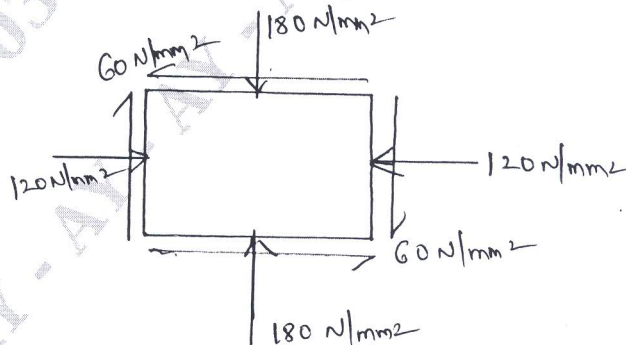

Fig.Q3
- 3 For the state of stress shown in Fig.Q3, determine principle stress, principal plane also obtain max shear stress and verify by constructing Mohr's circle. (20 Marks)